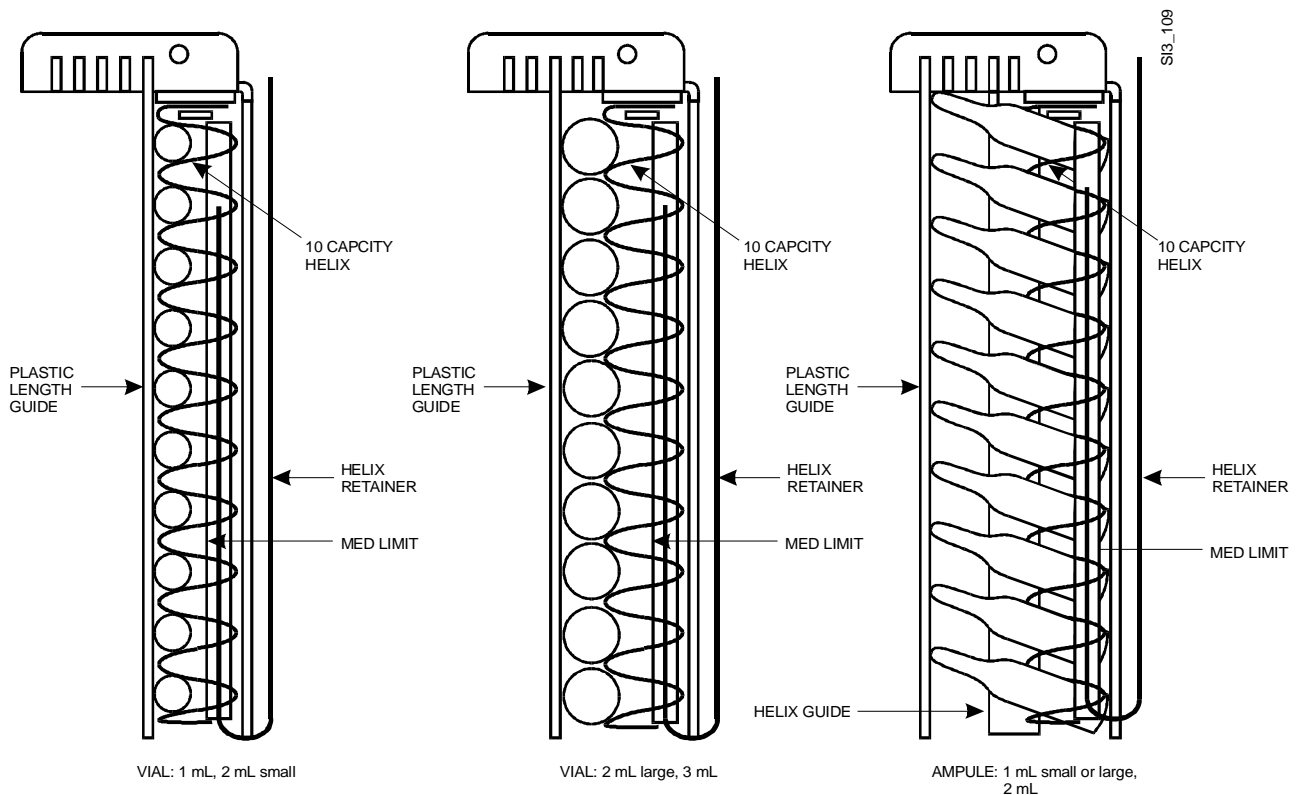

Figure 1 Kit 19-040069-000A Example Arrangements
Figures 1, 2, 3, and 4 show the four kit configurations and some of the various arrangements that can be obtained with these kits. If enough dispensing position space is available, any kit combination can be arranged on an oral dispensing shelf.
12. Install a helix retainer as shown in Figure 1, 2, 3, or 4, and note the following information: